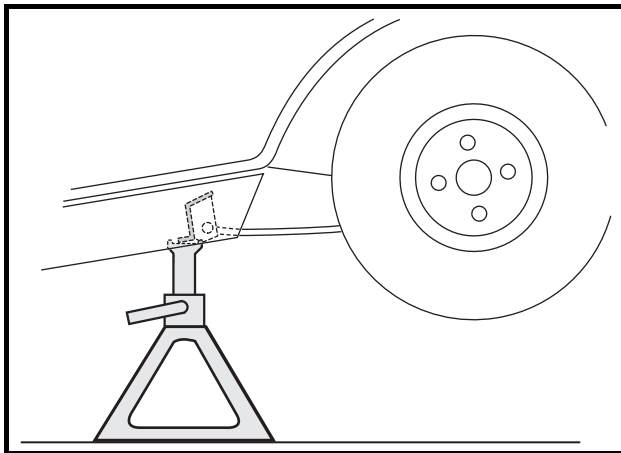

Figure 9-1 Support Vehicle on Jack Stands
1. Loosen, but do not remove, lug nuts on tire and wheel assembly on the side from which the spring is to be removed. Place chocks at the front wheels and lift the rear of the vehicle with a chain hoist or floor jack. Position jack stands under the frame crossmember between the spring mount and the side stringer, just forward of each rear wheel. Lower the vehicle to let the jack stands support the vehicle (**Figure 9-1, Page 9-2**). See following **WARNING**.